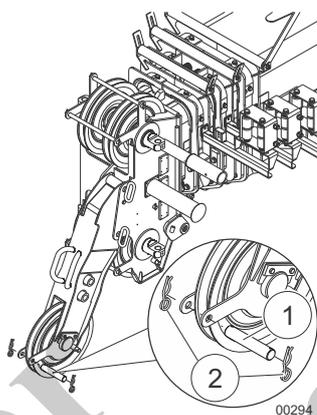

Fig. 248 Attaching the rope guard to the auxiliary jib
- 5 Insert the rope guard (1) in Fig. 248 into the auxiliary jib sheave and secure it with spring cotter pins (2) in Fig. 248.